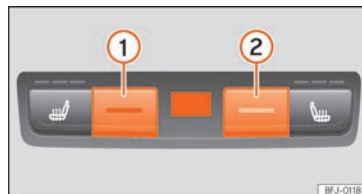

Fig. 186 In the centre console, rear section: controls for the rear seats.
- Press buttons ① and ② » **Fig. 186** to adjust the temperature.